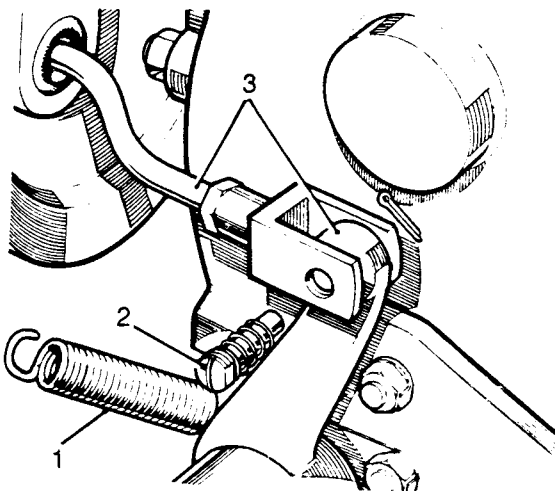

Fig K2.5
- (3) Refer to Fig K2.5. Disconnect the brake return spring (1).
- (4) Remove the expander rod fork fixings (2).
- (5) Disconnect the expander rod from the relay lever (3).